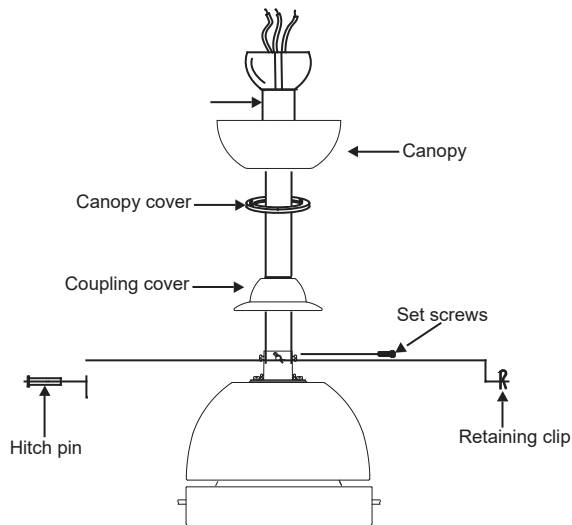

Fig. 8
Step 8. Slip the coupling cover, canopy cover and canopy onto the downrod. (Fig. 8)
Thread the hanger ball onto the downrod, insert the cross pin through the downrod and tighten. Now tighten the set screw. (Fig. 8)